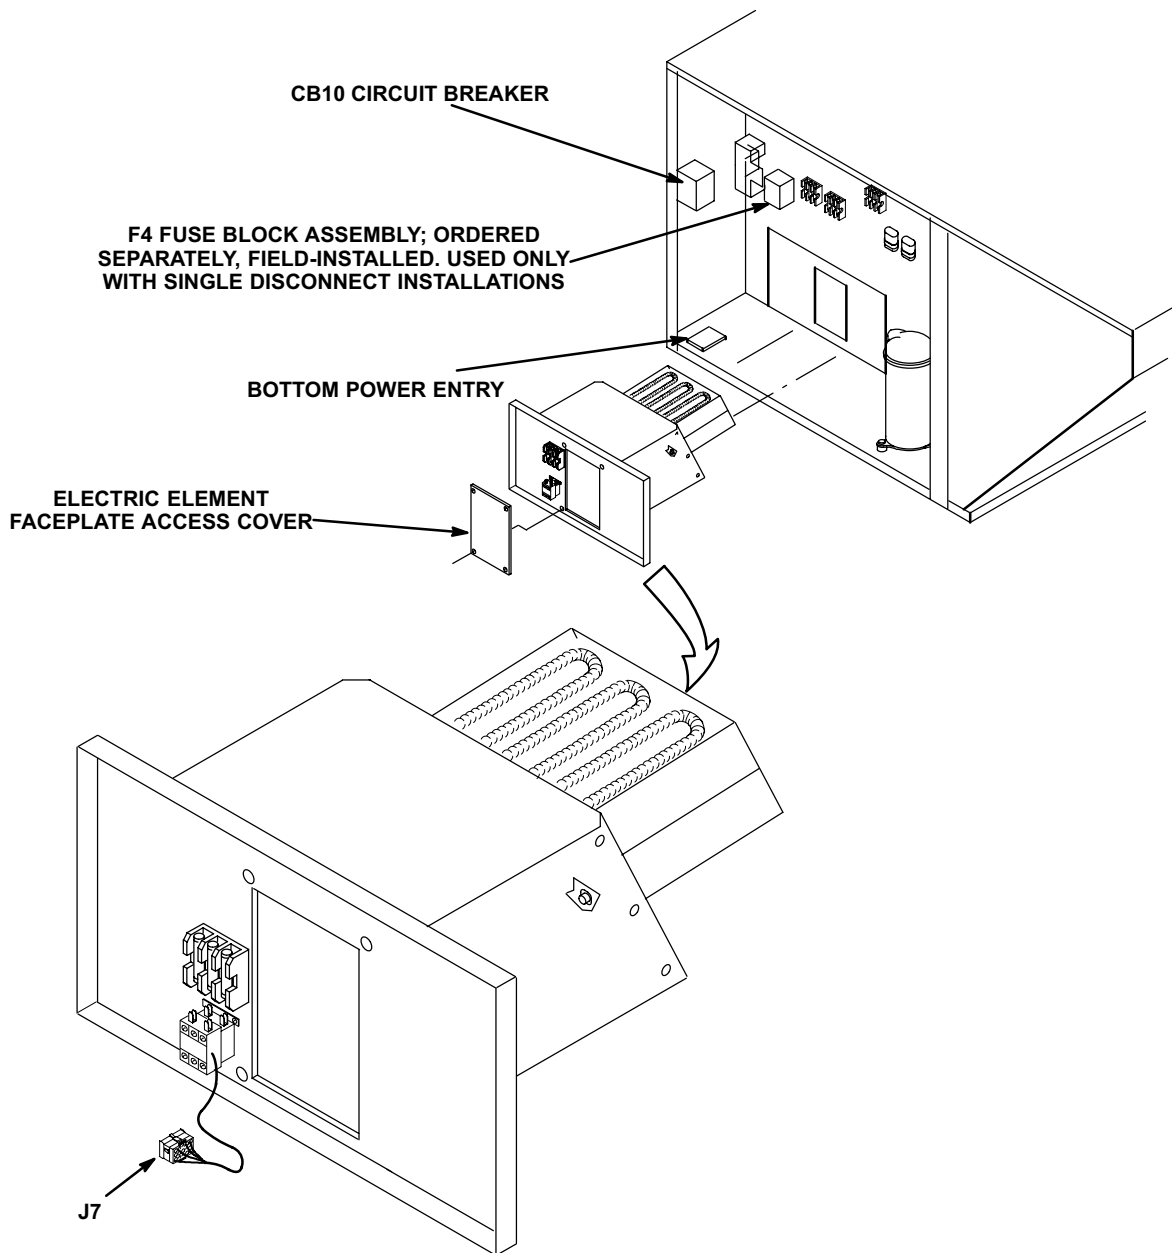

FIGURE 1
- 3- Insert electric element heat assembly into rectangular vestibule opening and secure assembly using screws provided. See figure 1.
- 4- *Single disconnect installations-* Install fuse block assembly (ordered separately) using screws provided. See figure 1 for location.